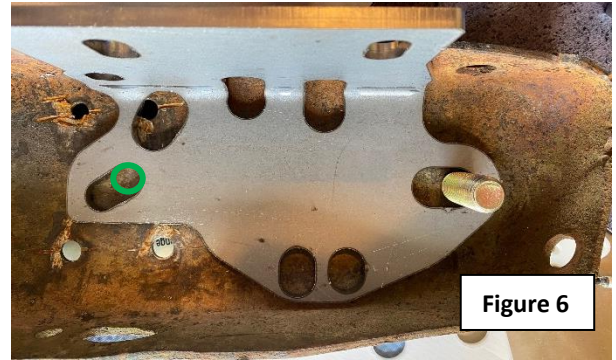

Figure 6
- i. To drill the rear 1/2" hole, refer to Figure 6
1. Take a 1/2" drill bit, and place in top right corner of slot (see green circle in Figure 6) Mark the hole center and drill a small pilot hole through frame. Once completed, drill out hole size using larger & larger drill bits until hole is at 1/2" in diameter.